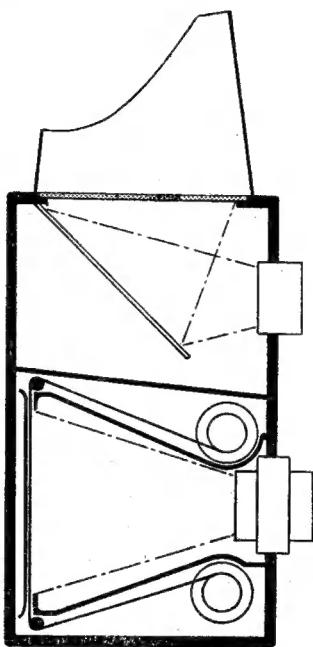

Fig. 32. Twin lens reflex
**T**HE twin lens reflex, increasing in popularity, uses a separate viewing lens immediately above the main lens, and by a mirror, produces an image for view-finding on a horizontal screen, as shown in Fig. 32. The upper lens is used always at full aperture thus producing a bright image, and focussing may be carried out by inspection of this image since the two lenses are linked together for focussing movement; depth of focus cannot be judged, of course.